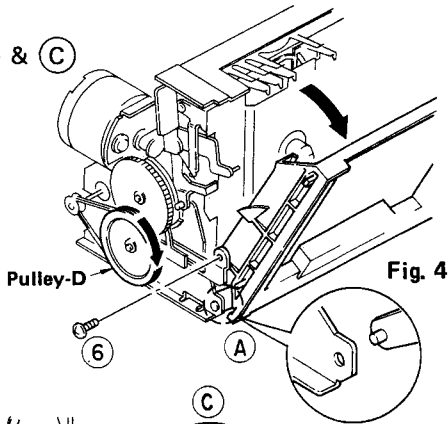

Fig. 4
- a. Open Housing Ass'y turning Pulley D of Fig. 4.